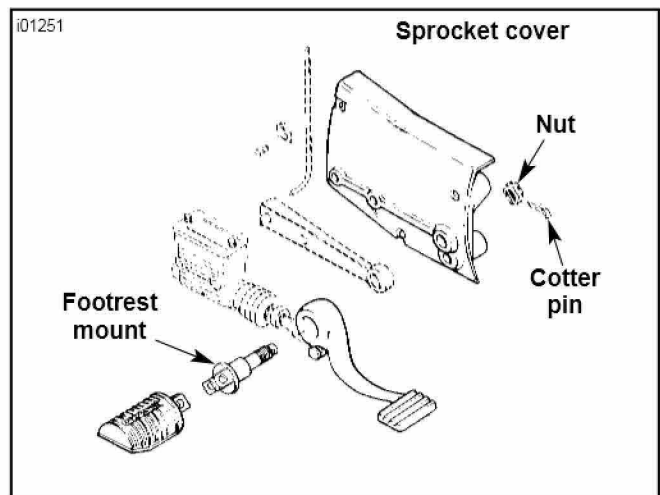

Figure 2. Brake Side Footrest Mounting (original equipment)
- See Figure 2. Remove the cotter pin and nut that holds the footrest mount in place. Replace the footrest mount with sockethead capscrew (3) from kit and reinstall the nut removed from the footpeg. Save footrest for reinstallation.